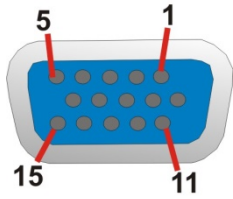

Figure 3-36: VGA Connector
- CN Pinouts:** See **Table 3-36** and **Figure 3-36**